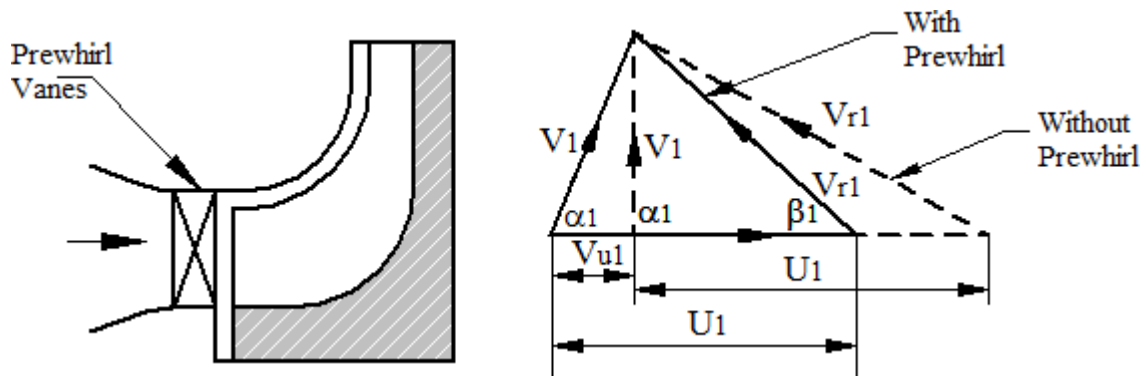

Fig. 7.6 Prewirl at impeller eye
**Answer:** When the relative velocity is too high for efficient operation of a compressor and if flow rate and speed cannot be altered, still the relative velocity can be reduced by giving the fluid some initial positive pre-rotation. This is known as *Prewirl*. This is usually done by providing inlet guide vanes installed directly in front of the eye as shown in figure 7.6. Sufficient prewhirl at the eye tip can avoid reaching the condition of critical Mach number leading to a prewhirl component. Positive prewhirl is disadvantageous because a positive inlet whirl velocity reduces energy transfer by an amount equal to  $U_1 V_{u1}$ .